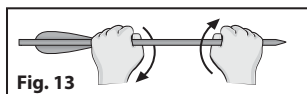

Fig. 13
5. Twist, flex and squeeze the shaft while listening for cracking (FIG. 13).